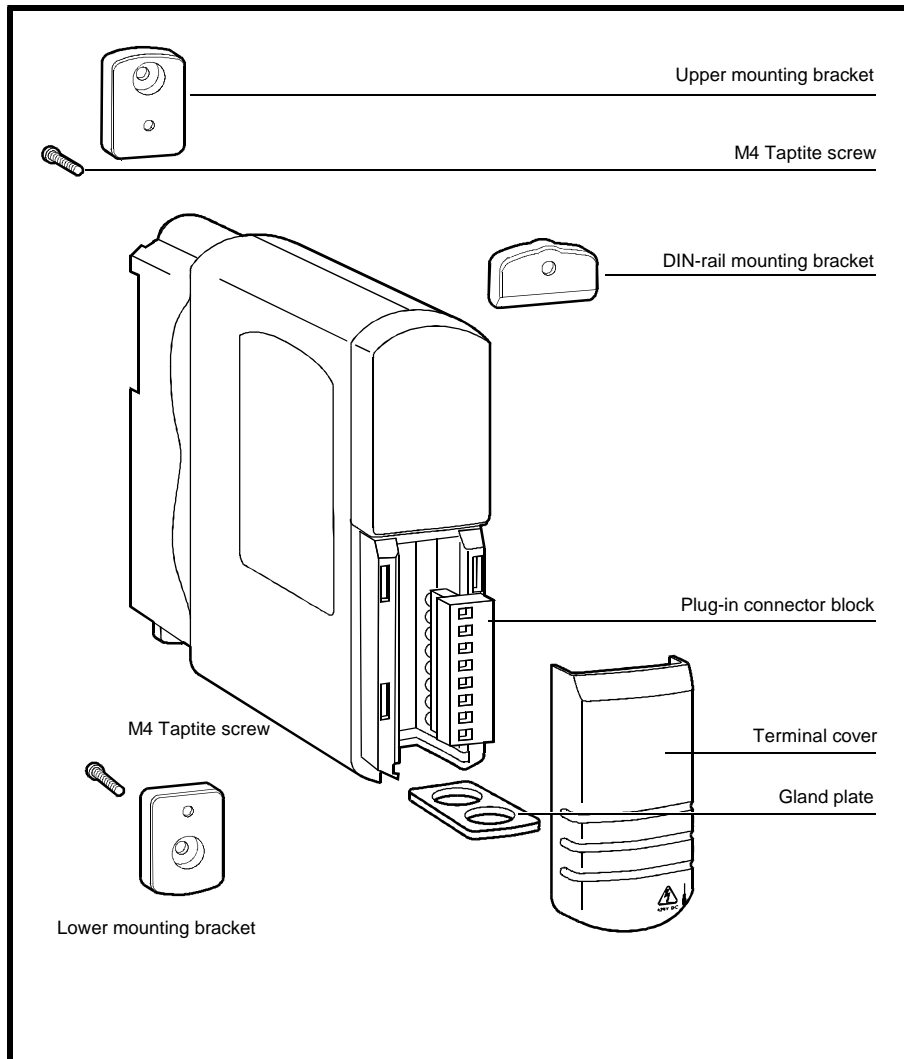

Fig. 4.2 RFI Filter parts supplied showing terminal chamber
- 1 Quick Reference Card (not shown in Fig. 4.2 below)
(For removing the terminal cover as shown in Fig. 4.2 please refer to Section 4.6.4 below.)